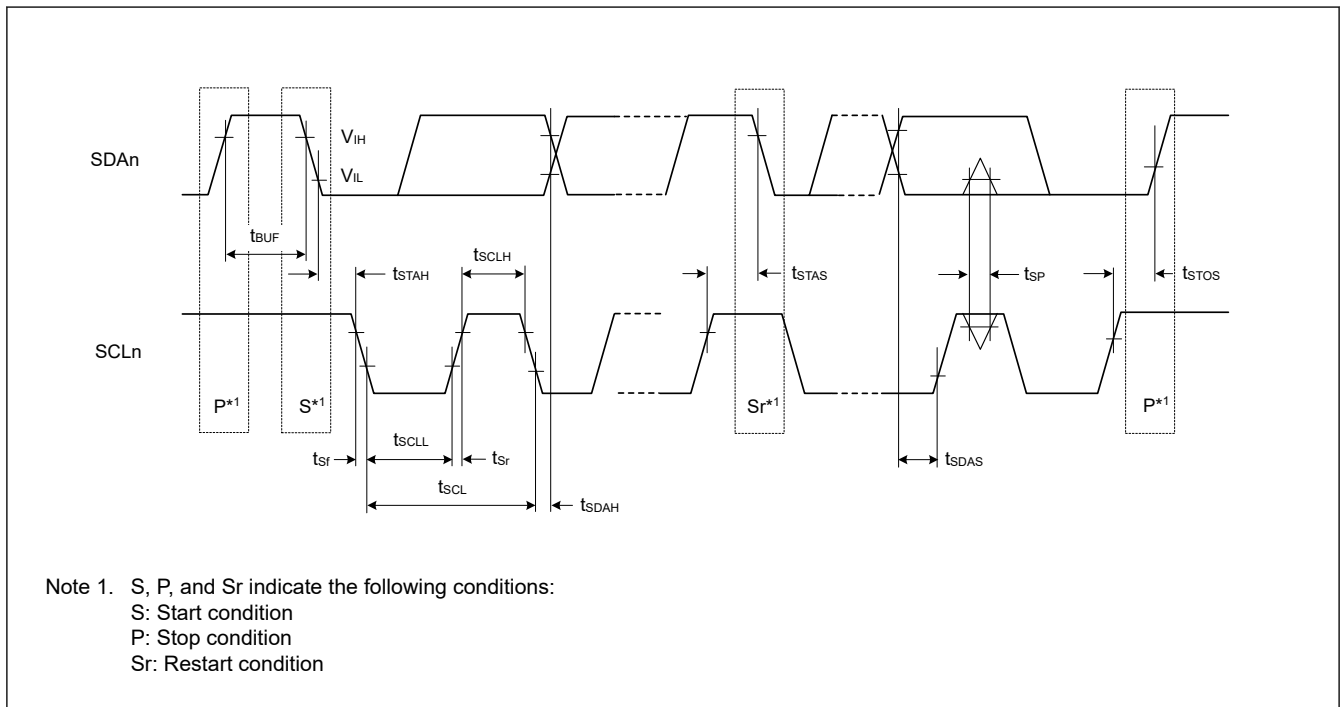

Figure 2.47 I²C bus interface input/output timing
| IIC (Standard mode, SMBus) BFCTL.FMPE = 0 | SCL input cycle time | t_{SCL} | $10 (18) \times t_{IICcyc} + 1300$ | — | ns | Figure 2.47 |
| IIC (Fast-mode) | SCL input cycle time | t_{SCL} | $10 (18) \times t_{IICcyc} + 600$ | — | ns | Figure 2.47 |
| IIC (Fast-mode+) BFCTL.FMPE = 1 | SCL input cycle time | t_{SCL} | $10 (18) \times t_{IICcyc} + 240$ | — | ns | Figure 2.47 |